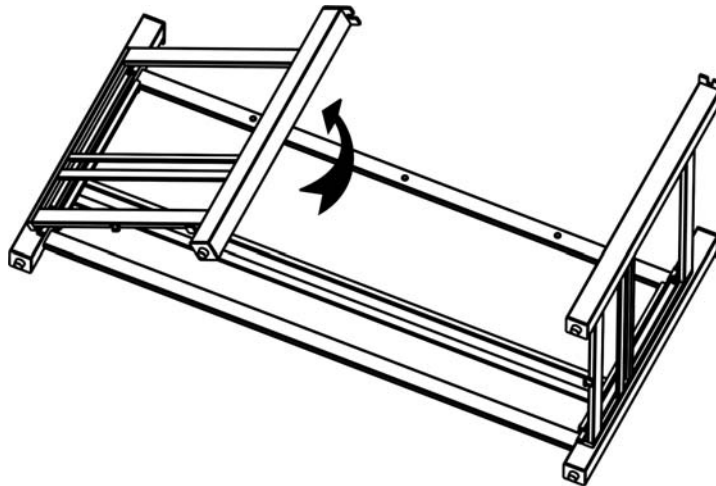

Figure 2
2. Place the back panel upside down on a flat, non-abrasive surface. Open it as shown in Figure 2.